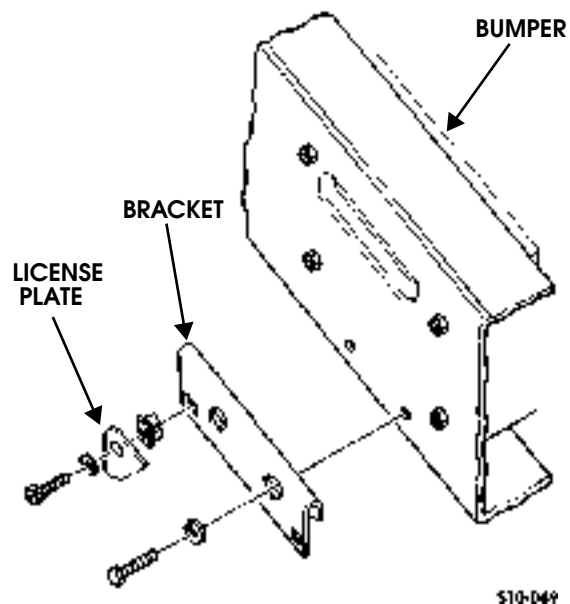

Figure 10-121: Front License Plate Bracket
1. Remove two capscrews, lockwashers, license plate, and two grommets from bracket. Discard lockwashers (Figure 10-121).
1. Install bracket on bumper with two lockwashers and screws (Figure 10-121).